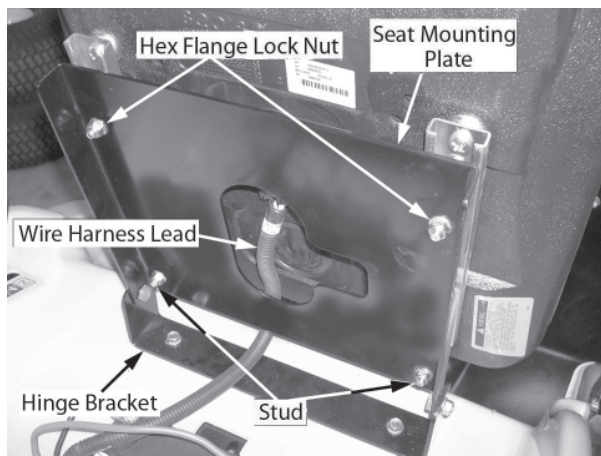

Figure 3-5
- Tip and hold the seat mounting plate partially forward. Locate the electrical connector end of the seat switch wire harness lead. Route the wire harness lead forward between the seat mounting plate and the seat hinge bracket and over the top of the seat mounting plate. See Figure 3-5.
- Thread the four hex flange lock nuts from the manual pack onto the studs and fully tighten to secure the seat. Refer to Figure 3-5.